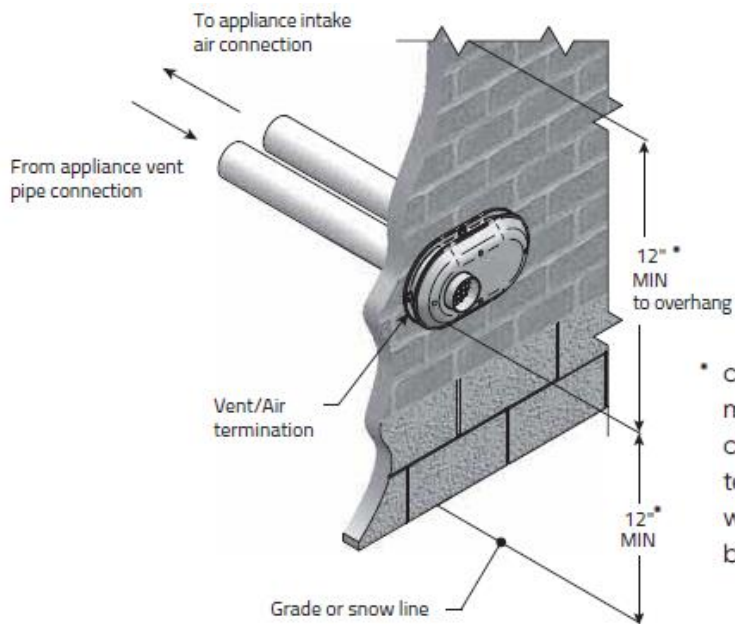
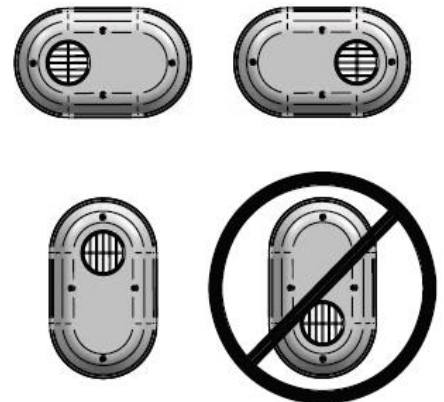
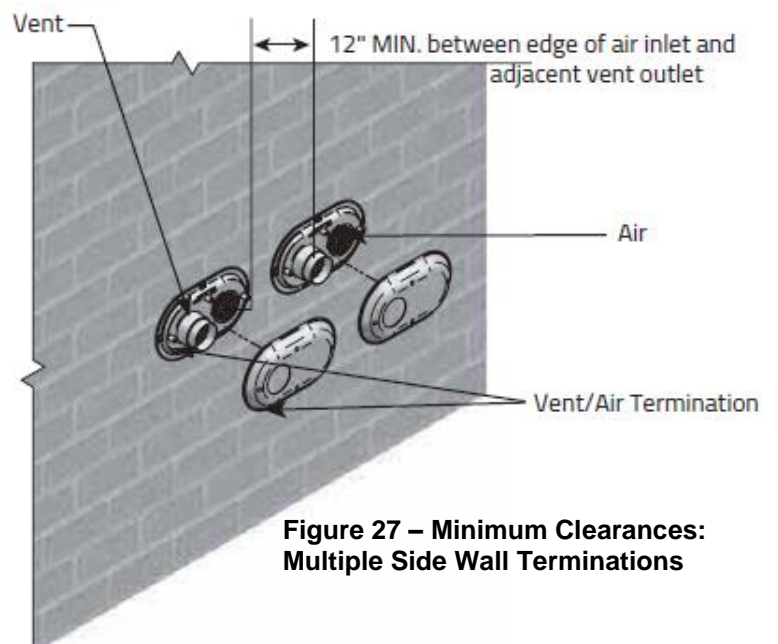

Figure 24 – Typical Side Wall Termination
Figure 25 – Approved Installation Orientation
Figure 27 – Minimum Clearances: Multiple Side Wall Terminations
7. Secure assembly to structure as shown in Figure 23. Ensure clearances as shown in Figure 24.
8. Cement heater combustion-air and vent pipes to concentric Y fitting termination assembly. See Figure 24 for proper pipe attachment.
The vent termination **must** maintain all termination clearances and be installed in accordance with local building codes and/or The National Fuel Gas Code ANSI Z223.1 (Latest Edition) or CGA/CAN B149 Installation Code (see Figure 24).
When locating the penetration of the vent and air pipe, ensure the termination is properly oriented as shown in Figure 25 and ensure that it maintains minimum clearance requirements as shown in Figure 24. For multiple vent terminations, ensure that a minimum clearance of 12 in (30 cm) is maintained between edge of air inlet and adjacent vent outlet and that all vent pipes and air inlets terminate at the same height to avoid the recirculation of flue gases and the possibility of causing severe personal injury, death, or substantial property damage (see Figure 27).
2. Slide both the intake and vent pipe through the holes. Solvent weld both pipes to the base of the vent termination kit (see Figure 24).